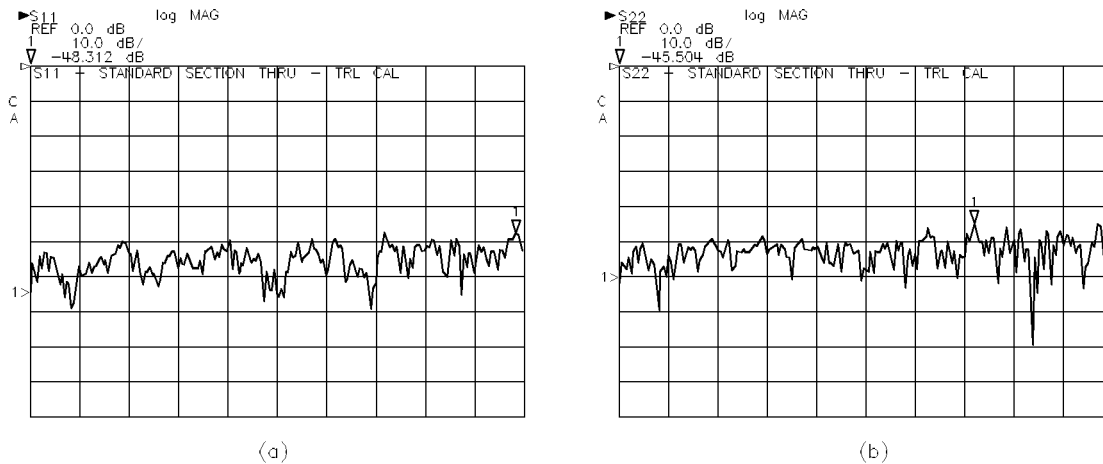

Figure 5-4. Typical Corrected S_{11} and S_{22} of Sandard Section Thru
5. After one complete measurement sweep, the displayed trace should look similar to the typical trace shown in Figure 5-4.